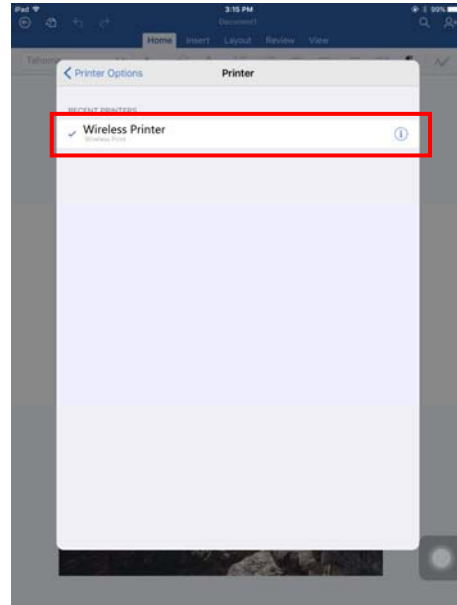

Figure 42
2.6 Select “Wireless Printer” in the list, as shown in Figure 42.